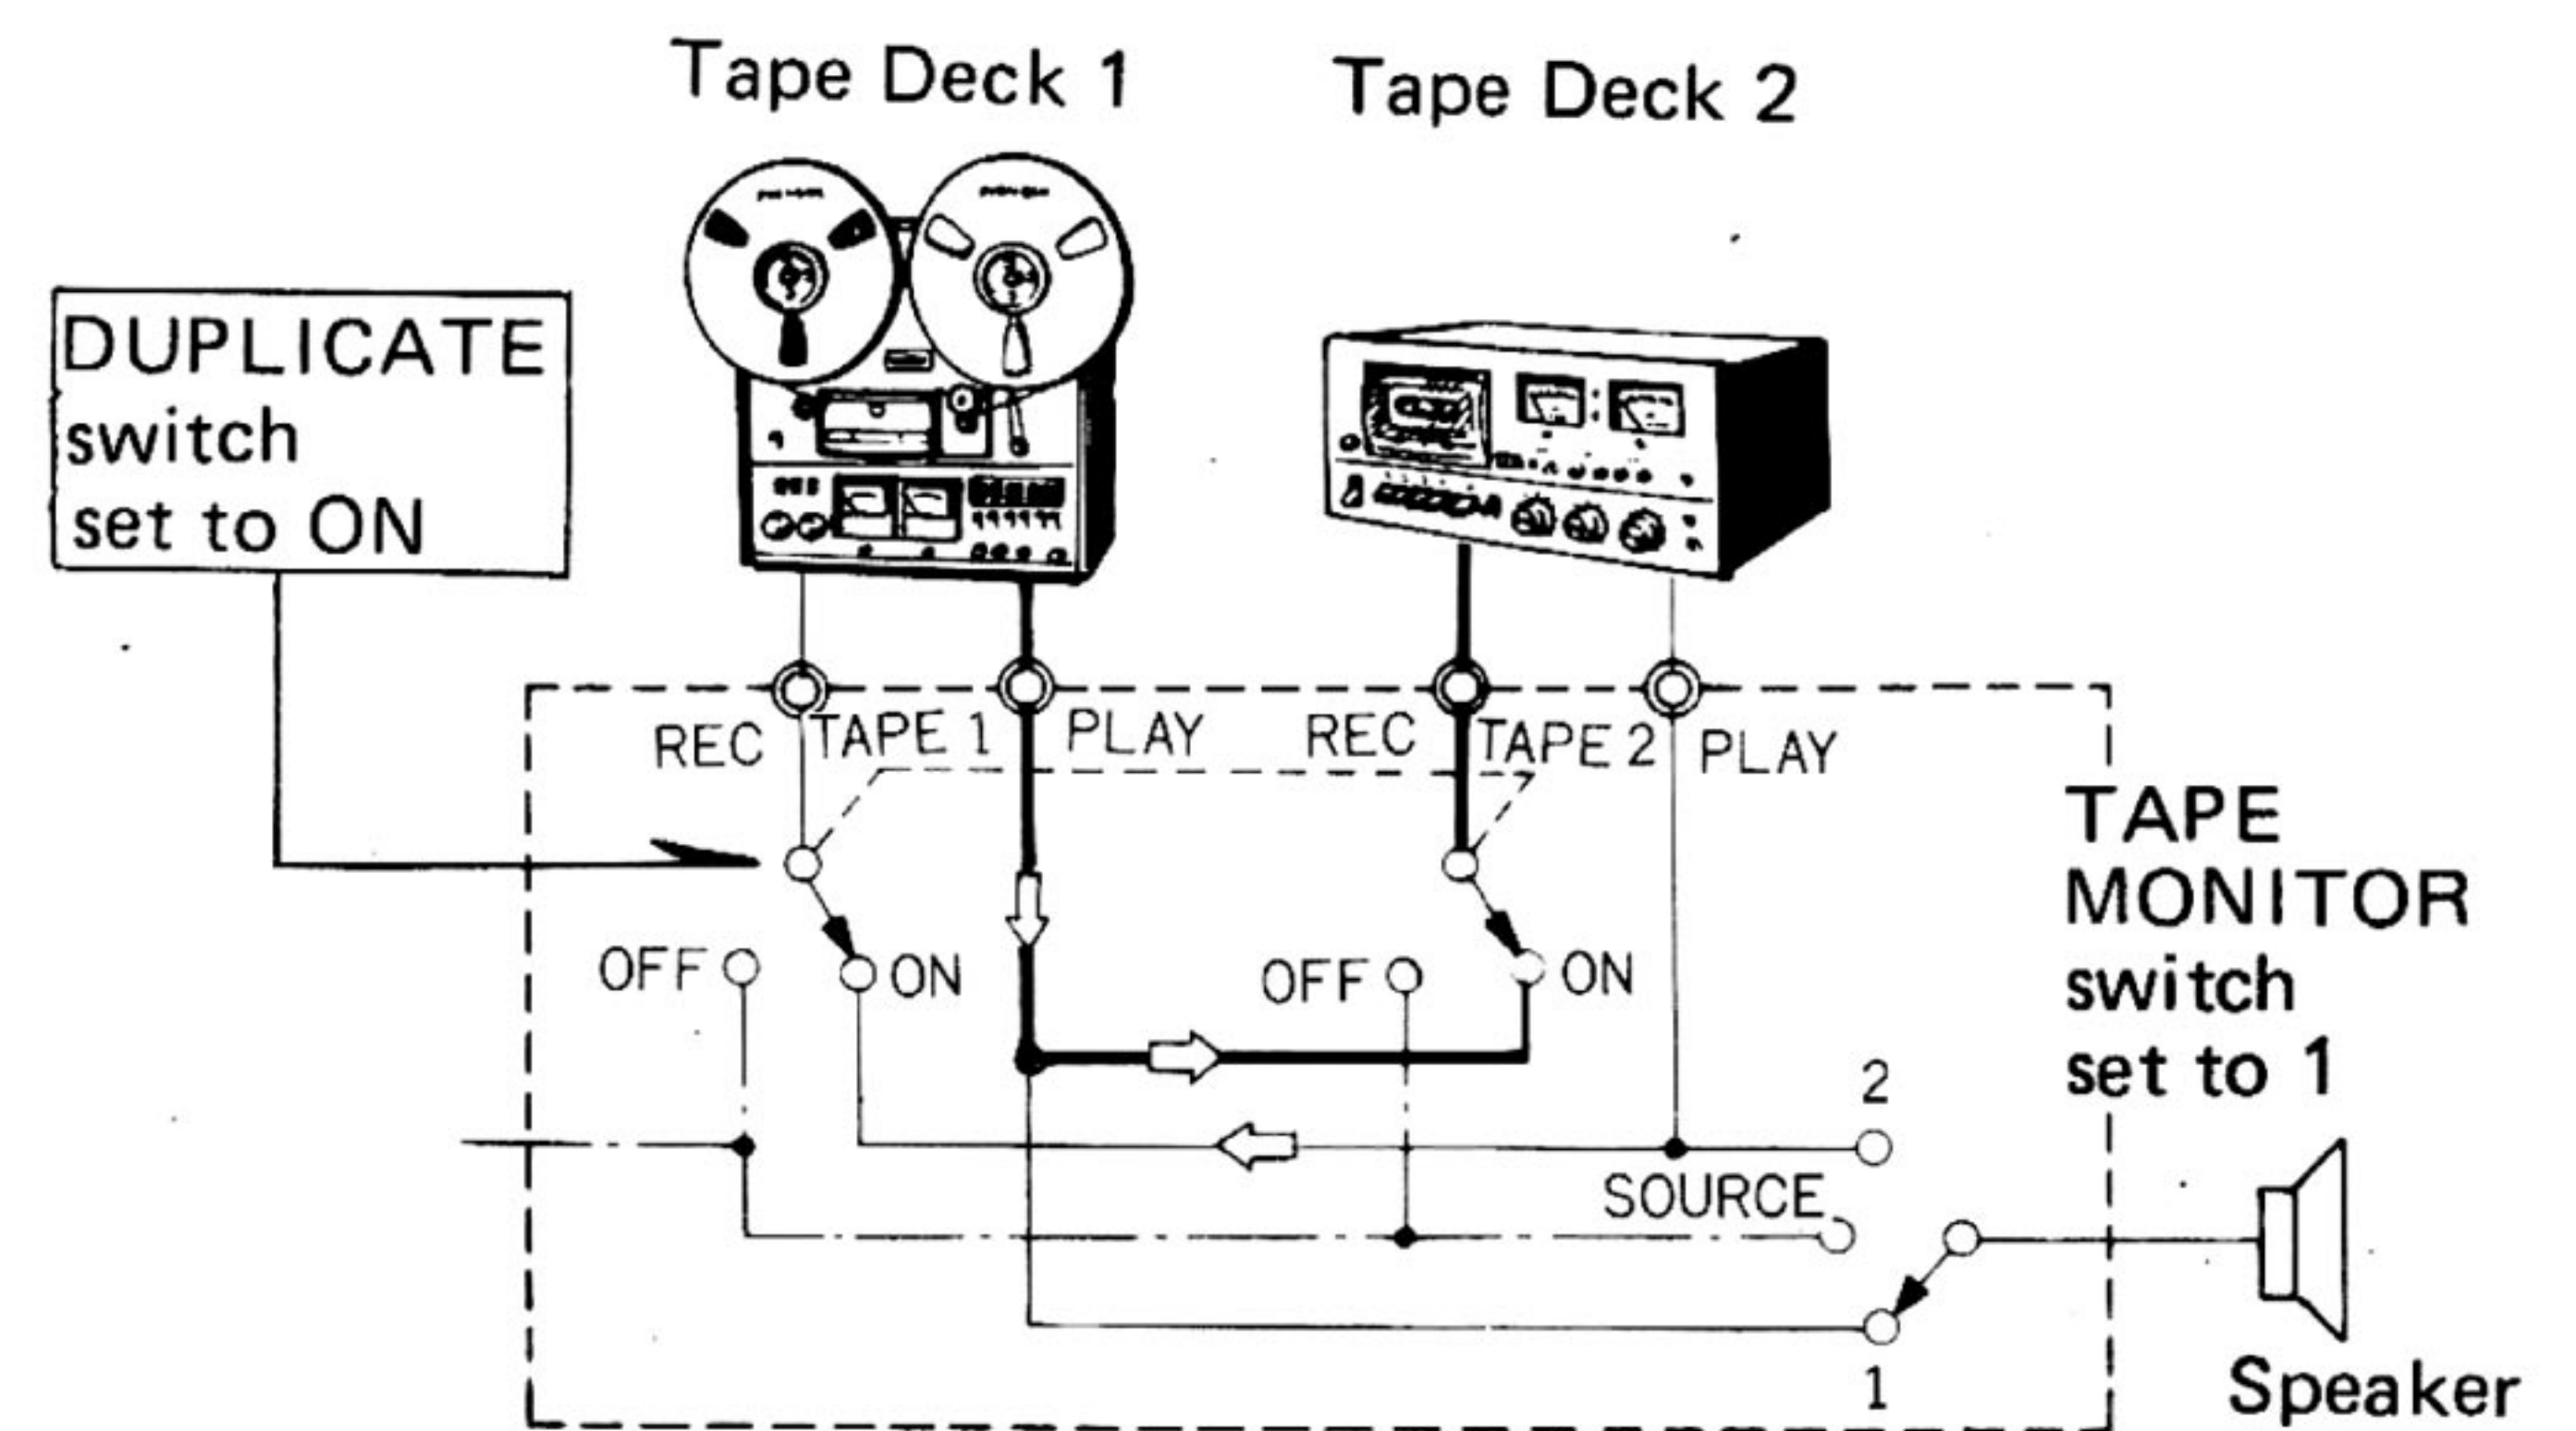

Fig. 16
1. As shown in Fig. 16, connect one tape deck each to TAPE 1 and 2 terminals.